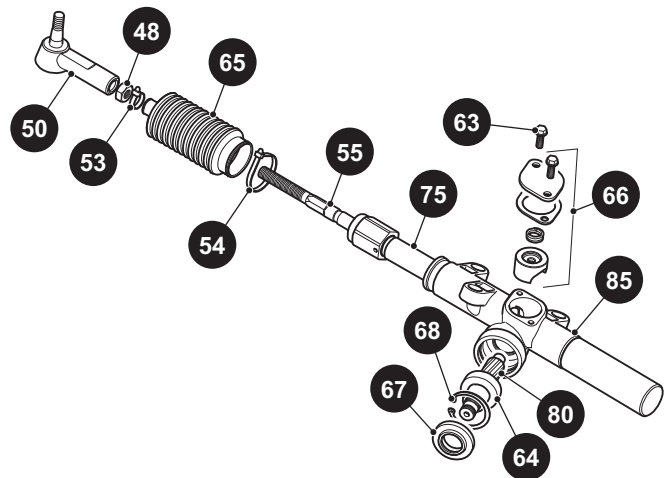
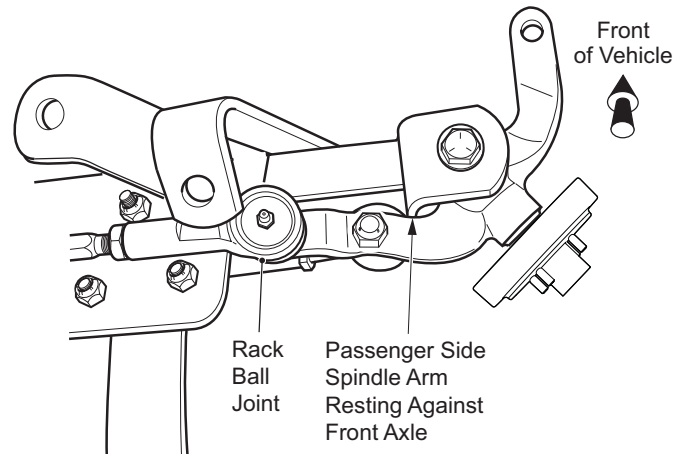

Figure 17 Rack and Pinion Unit Disassembly
Figure 18 Spindle Contact with Front Axle
2. The rear spindle arm on the passenger side **must rest against** the front axle (Ref. Figure 18). If it does not, all adjustment is made at the rack ball joint (50) (Ref. Figure 17).
3. Loosen the jam nut (48) at the rack ball joint and use a wrench to thread the shaft of the rack extension (55) further into rack ball joint. This will provide more travel for the steering wheel to be turned to the right.